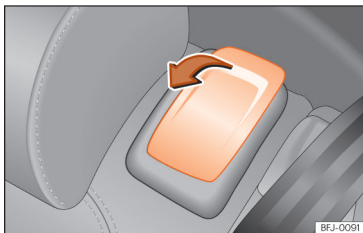

Fig. 101 Second seat row: accessibility controls.
- Pull the release lever in the direction of the arrow >>> Fig. 101.
- Pull the lever >>> Fig. 101 and push the backrest backwards until it is in a vertical position. The entire seat folds down >>> ⚠.